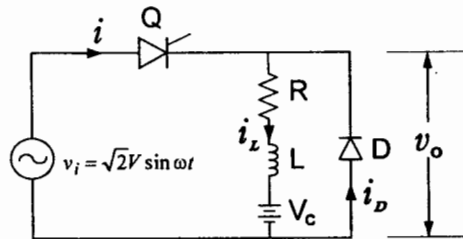

Figure 1: A Half-wave rectifier.
1. A half-wave controlled rectifier with a free-wheeling diode is shown in Figure 1. The thyristor, Q is fired at  $\alpha = 40^\circ$  during each cycle. The rms value of the source voltage is 120 V. Consider  $V_c = 48$  V,  $L = 10$  mH and  $R = 1.8 \Omega$ .